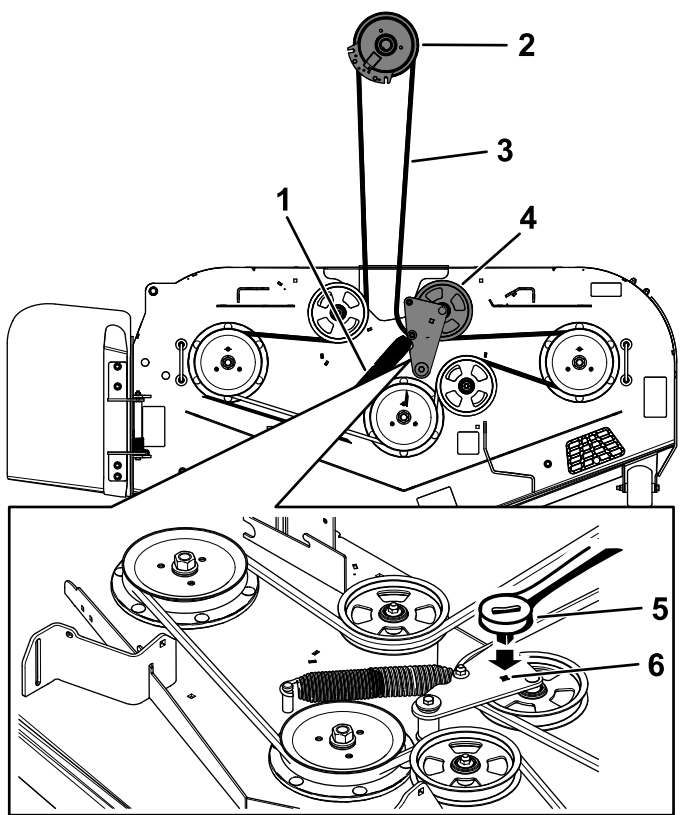

Figure 67
5. Use a 3/8-inch ratchet in the square hole in the idler arm to remove tension on the idler spring (Figure 67).
7. Remove the belt guide on the spring-loaded idler arm (Figure 67).
9. Install the new belt around the mower pulleys and the clutch pulley under the engine (Figure 67).
10. Install the belt guide on the idler arm (Figure 67).
11. Using the 3/8-inch ratchet in the square hole, install the idler spring (Figure 67).